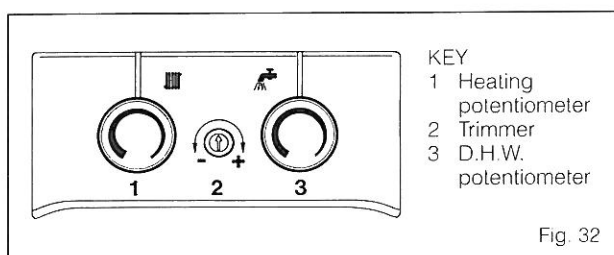

Fig. 32
- remove the retaining spring, completely withdraw the modulator (4) and loosen the locking nut (2);
- tighten the screw (3) and set the knob of the D.H.W. potentiometer to the maximum value (3, Fig. 32).
- using a  $\varnothing$  12 spanner, turn the union (1) to arrive at the maximum pressure value given in Table 8: to reduce the pressure, turn the union counterclockwise; to increase the pressure, turn it clockwise;
- once setted the pressure value tighten the locking nut (2) and replace the modulator (4) in position;
- withdraw the modulator (4);
- set the knob of the D.H.W. potentiometer to the maximum value (3, Fig. 32);
- remove the plastic cap (1);
- using a  $\varnothing 10$  spanner, turn the nut (3) to arrive at the maximum pressure value given in Table 8: to reduce the pressure, turn the nut counterclockwise; to increase the pressure, turn it clockwise;
- disconnect the electric power and remove the plastic cap on the modulator (1);
- using a  $\varnothing 9$  spanner, turn the nut (2) to arrive at the minimum pressure value given in Table 8: to reduce the pressure, turn the nut counterclockwise; to increase the pressure, turn it clockwise;
To adjust boiler heat output for heating purposes, i.e., modifying the setting made at the factory, which is approximately 16 kW in the “20” vers., 18 kW in the “25 CE - 25 CE IONO” vers. and 19 kW in the “25 BF CE IONO” vers. use a screwdriver to adjust the heating heat output trimmer (2, Fig. 32).